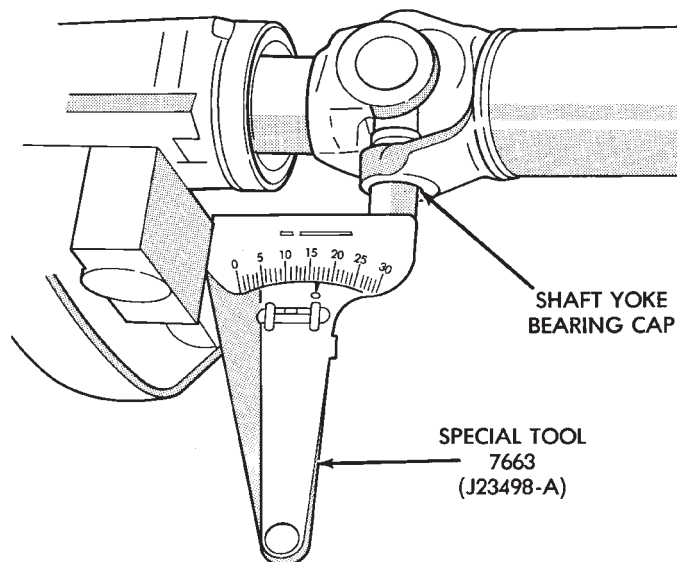

Fig. 12 Propeller Shaft Angle Measurement (C)
- (3) Rotate propeller shaft 90 degrees and place Inclinator on yoke bearing parallel to the shaft (Fig. 12). Center bubble in sight glass and record measurement. This measurement can also be taken at the rear end of the shaft.